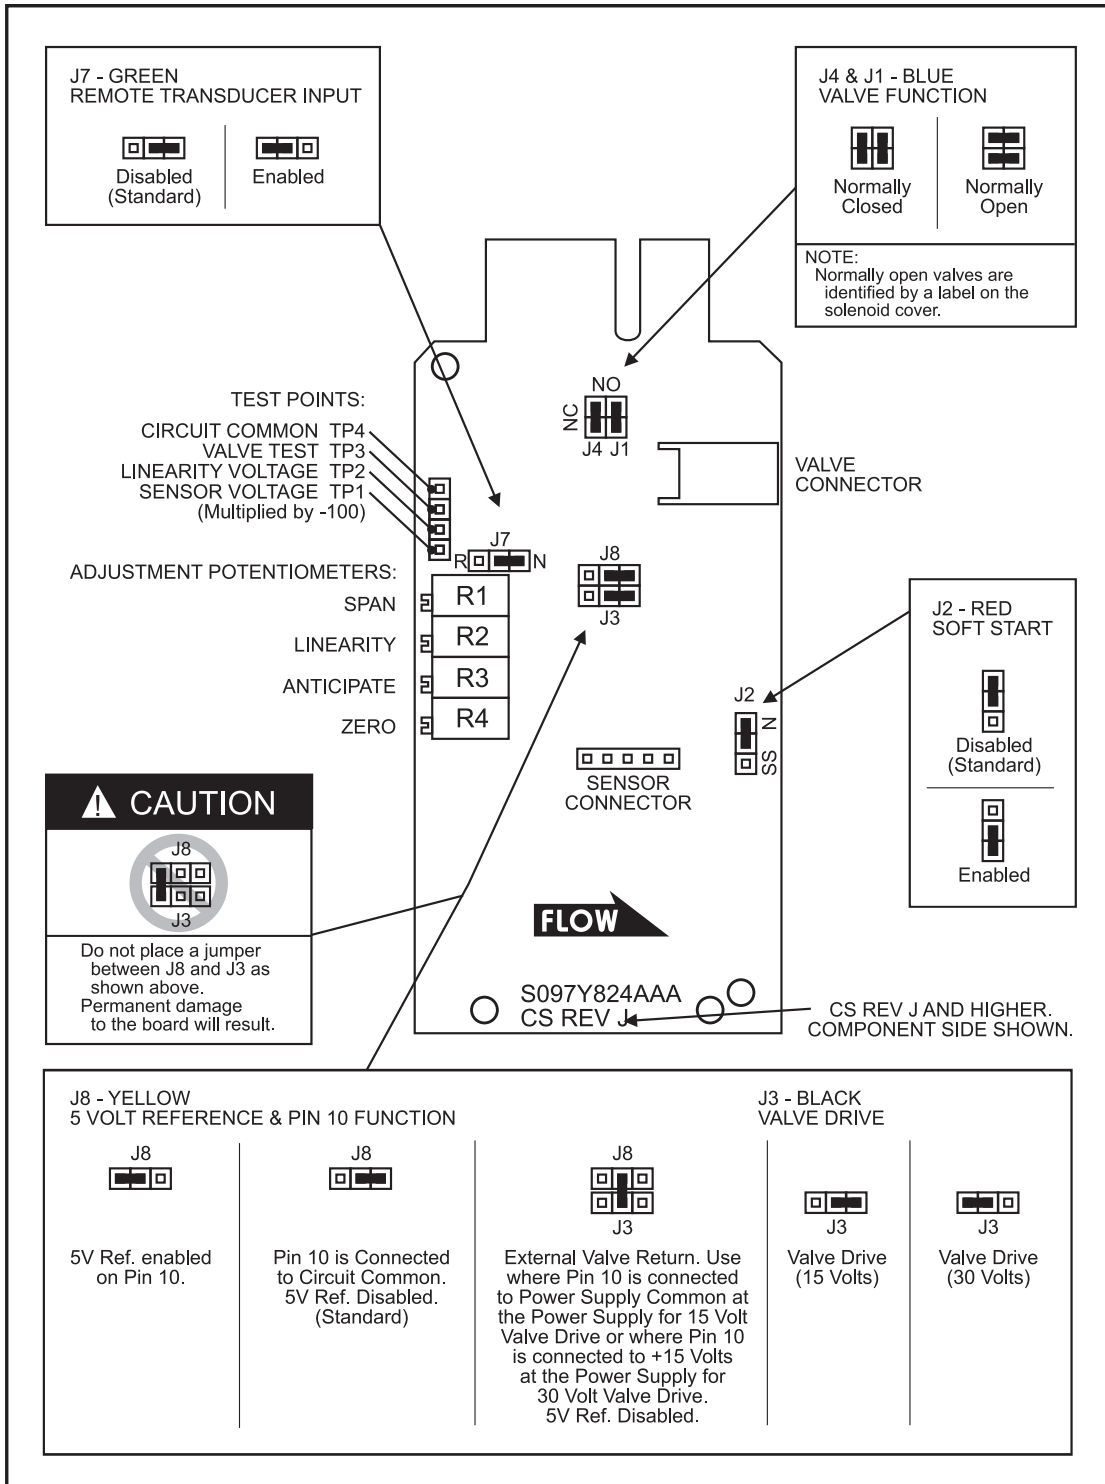

Figure 3-3 Card Edge PC Board Jumper Location and Function
Note: To obtain access to the jumpers, the electronics cover can must be removed. Disconnect the power to the mass flow controller and cables to the D-Connector and the valve coil connector. Remove the three screws at the base of the can and remove the top jack post of the D-connector. Remove the can. The can must be replaced before returning the unit to service. Refer to Section 2-6 for the proper electrical hookup. Refer to Figure 3-3 through 3-5 for PC board jumper locations and functions.
Refer to Figures 3-3, 3-4 and 3-5. To enable soft start, place the red jumper on the controller printed circuit board at J2 in the right hand (SS) position.
Refer to Figures 3-3, 3-4 and 3-5. To allow the Model 5965/5851EM control circuitry and valve to be used with an 0-5 Vdc external transducer signal, a green jumper is moved to the lower two pins at J7. With this feature enabled a 0-5 Vdc signal may be applied to the external transducer input terminal. The Model 5965/5851EM controller circuitry will modulate the valve position to increase or decrease the flow rate to maintain the transducer output at the desired set point. The control circuitry is reverse acting, e.g., for an increase in transducer output the flow will correspondingly be decreased.
For the Card Edge model (Figure 3-3), do not ground Pin 10 with the 5 volt reference enabled. Irreparable damage to the printed circuit board will result.